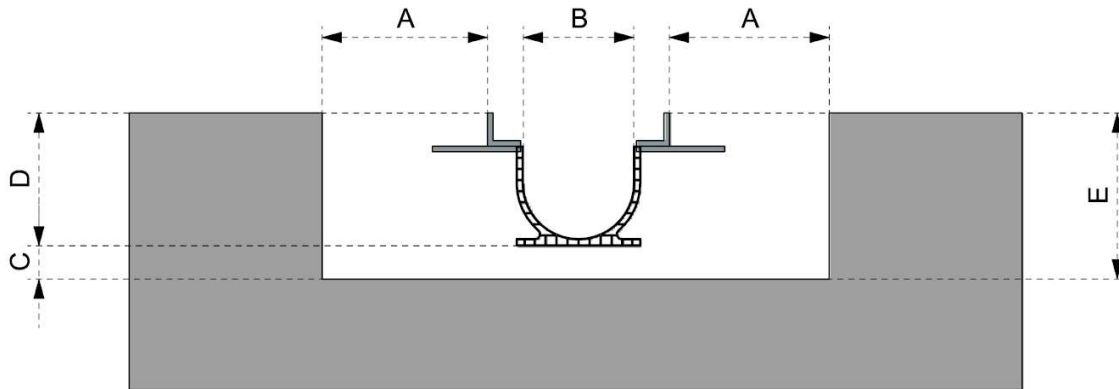

Figure 1: Trench excavation dimension requirements.
Figure 1 shows the relevant dimensions to determine excavation requirements.
3. A slurry bed of low-medium slump concrete can now be poured continuously along the excavated trench, prior to placing the PVC in position. For longer trenches, this may be completed in stages. The height of the slurry bed should be determined based on dimension C from Figure 1 and the slump of the concrete being used.